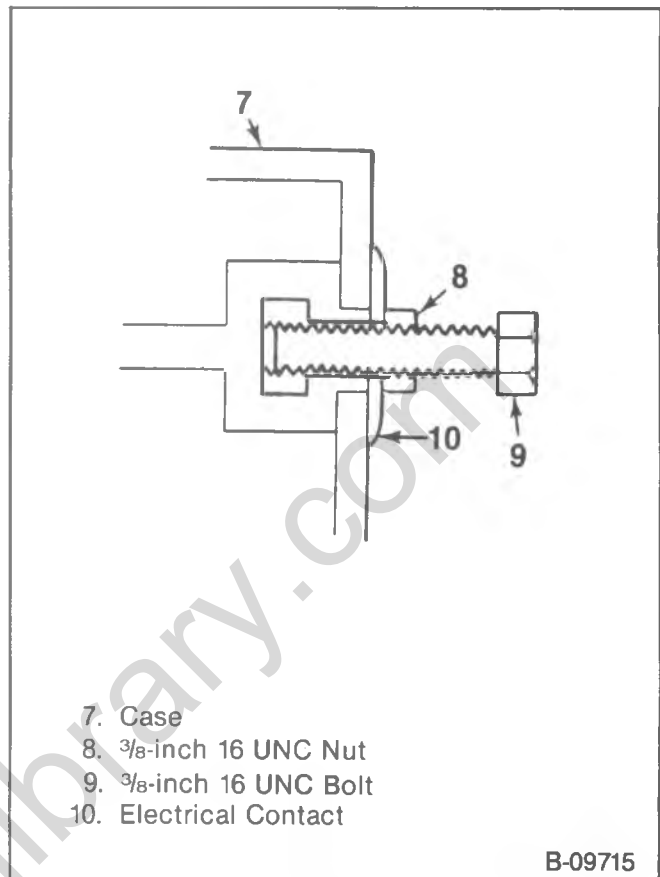

Figure 4—Testing and Charging Using Bolt and Nut
3. If adapters are not available, use a 3/8-inch 16 UNC bolt and stainless steel nut (figure 4). Finger tighten. Contact must be made through the lead pads at the face of the terminals, not through the threads of the bolt.